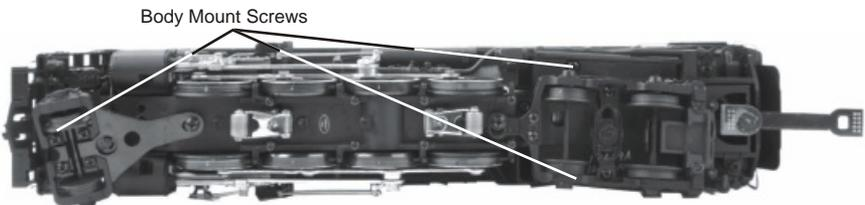

Figure 6: Removing the Body
2. Remove the Phillips screws (marked “GREASE”) located at each set of wheels and under pick up rollers (Fig. 6).
1. Remove the 3 screws that attach the boiler shell to the chassis (see fig 6)